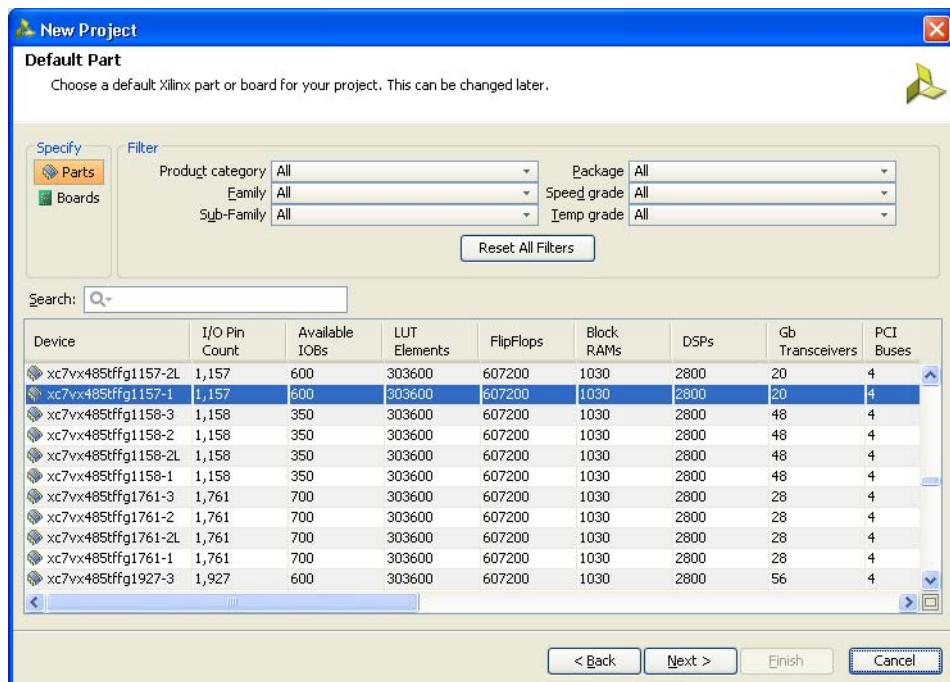

Figure 3-8: Default Part (Default Window)
8. Click **Next** to proceed to the **Default Part** page (Figure 3-8) where the device that needs to be targeted can be selected. The **Default Part** page appears as shown in Figure 3-8.